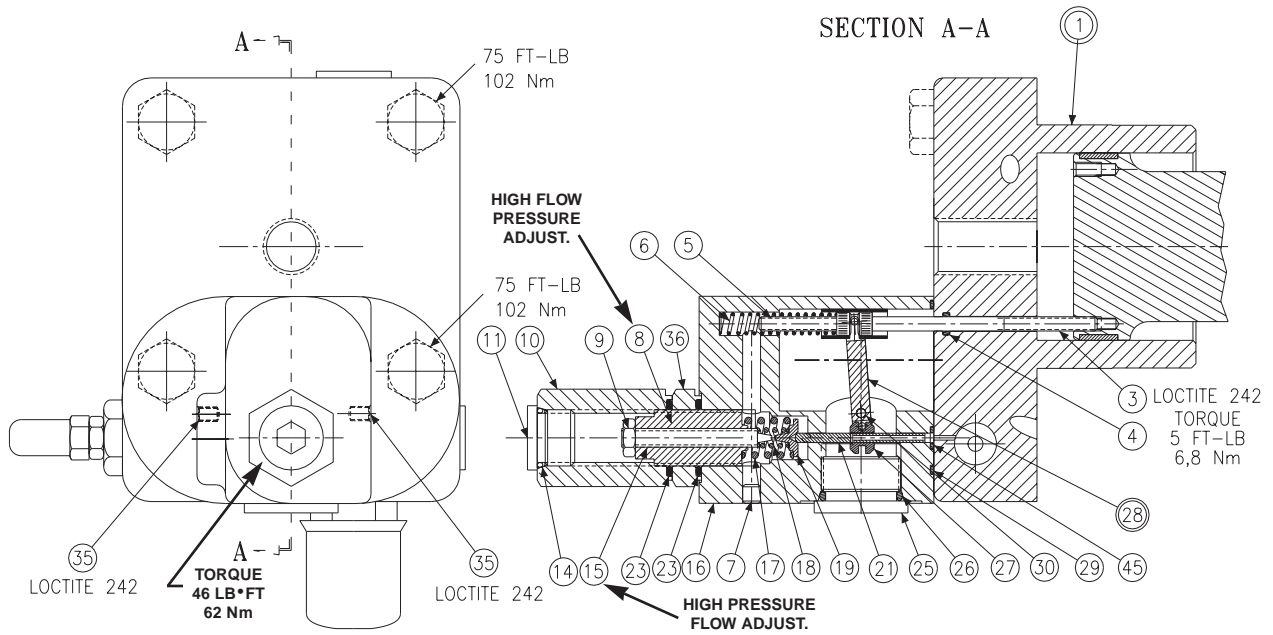
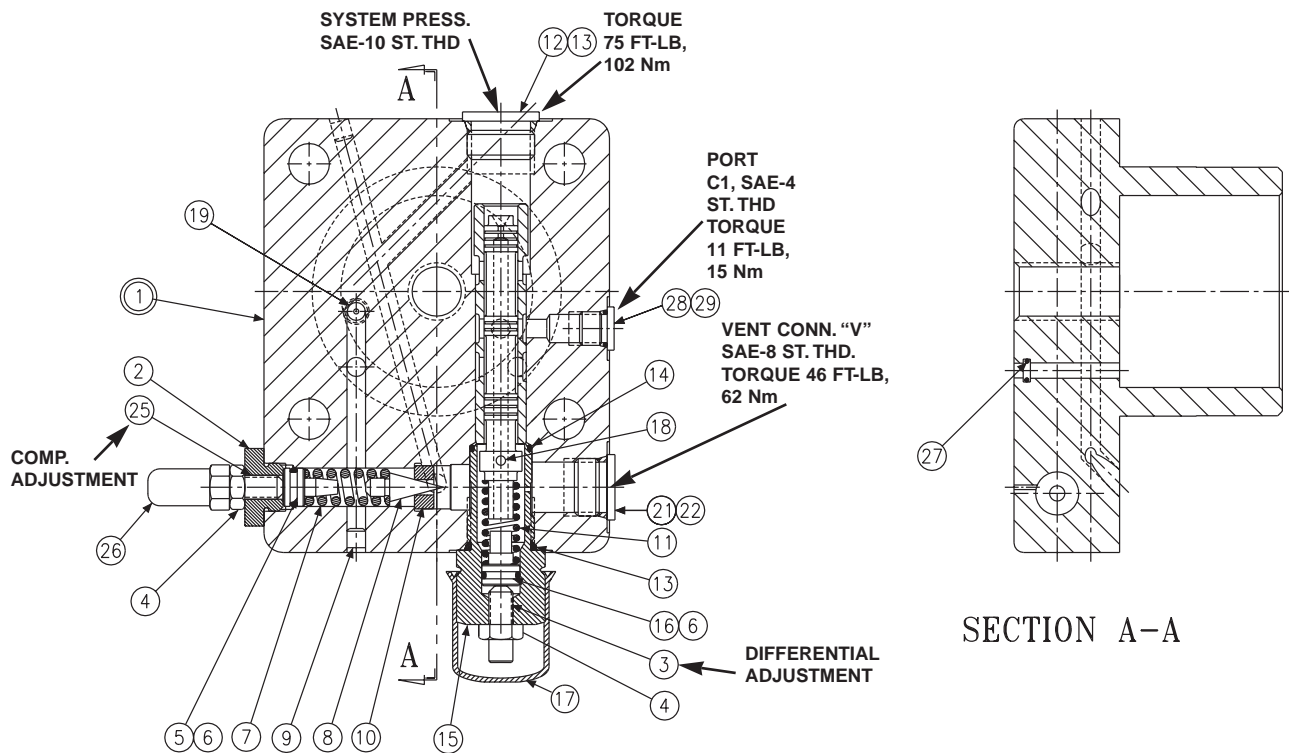

FIGURE 12 – TORQUE LIMITER ASSEMBLY
FIGURE 13
1. **See Figure 12.** Remove 2 screws holding Torque Limiter body (16) to cap assembly (1).
2. Remove all parts from torque limiter body (16) except pin (30) and arm assembly (28). It is not necessary to remove these parts unless broken or worn. Examine parts for wear or damage.
3. Remove screw (3). Examine head for excessive wear, and body for smooth sealing surface with O-ring.
5. Remove cap assembly (1).
6. **See Figure 13.** Remove plug (15) and attached parts. Remove spring (11) and spool (18).
7. Remove adjusting plug (2) and attached parts. Remove spring (7) and cone (8).
8. Do not remove sleeve in body (1). Sleeve is pressed into cap and finished to size. If sleeve or cap is worn, replace the cap-sleeve assembly (1).
9. Examine seat (10) for wear. Do not remove unless damaged.
1. **See Figure 13.** Install Avseal plugs (9) and orifice (19) in body.
2. Press seat (10) into bore squarely against shoulder in bore.
3. Install spool (18) into bore as shown. Install spring (11) over end of spool. Install O-ring (6) on seal (16). Lubricate and install into plug (15). Install plug (15) into cap. Install screw (3), nut (4) and acorn nut (17). Install plug (12). Torque plugs to 75 lb.·ft., 102 Nm. Install plug (21). Torque to 46 lb.·ft., 62 Nm. Install plug (28). Torque to 11 lb.·ft., 15 Nm.
4. Install O-ring (6) on seal piston (5). Lubricate O-ring and Install cone (8), spring (7) and seal piston (5) into bore in cap (1), being careful that cone enters seat (10). Install adj. plug (2), screw (25), nut (4) and acorn nut (26).
5. Carefully install O-ring (27) in the cap.
8. **See Figure 12.** Apply Loctite 242 on threads of screw (3), lubricate the shank, thread through the cap into the control piston, and torque to 5 lb.·ft., 6,8 Nm
10. Press dowel (30) into body (16), through the link assembly (28), to 1/4", 6,35 mm below surface. Apply Loctite hydraulic sealant to threads of screws (35) and install over dowel (30).
11. While sleeve (27) is engaged into dowel on link (28), slide spool (21) into bore of body (16), and through sleeve (27). Spool (21) must move freely and easily at all positions of the link (28).
12. Assemble remaining parts per drawing. While spring retainer is engaging clevis pin (5) under dowel of link (28), slide the other opening of spring retainer over the top of the screw (3). Attach body assembly (16) to cap (1) and torque screws to 75 lb.·ft., 102 Nm.
PARTS LIST FOR FIG. 12
PARTS LIST FOR FIGURE 13